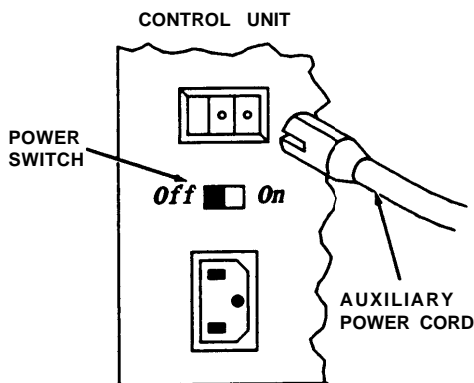

Figure 3
**Warning:** Switch off the control unit power. If you have an auxiliary power supply, unplug the auxiliary power cord from the control unit (Figure 3) before inserting this module.